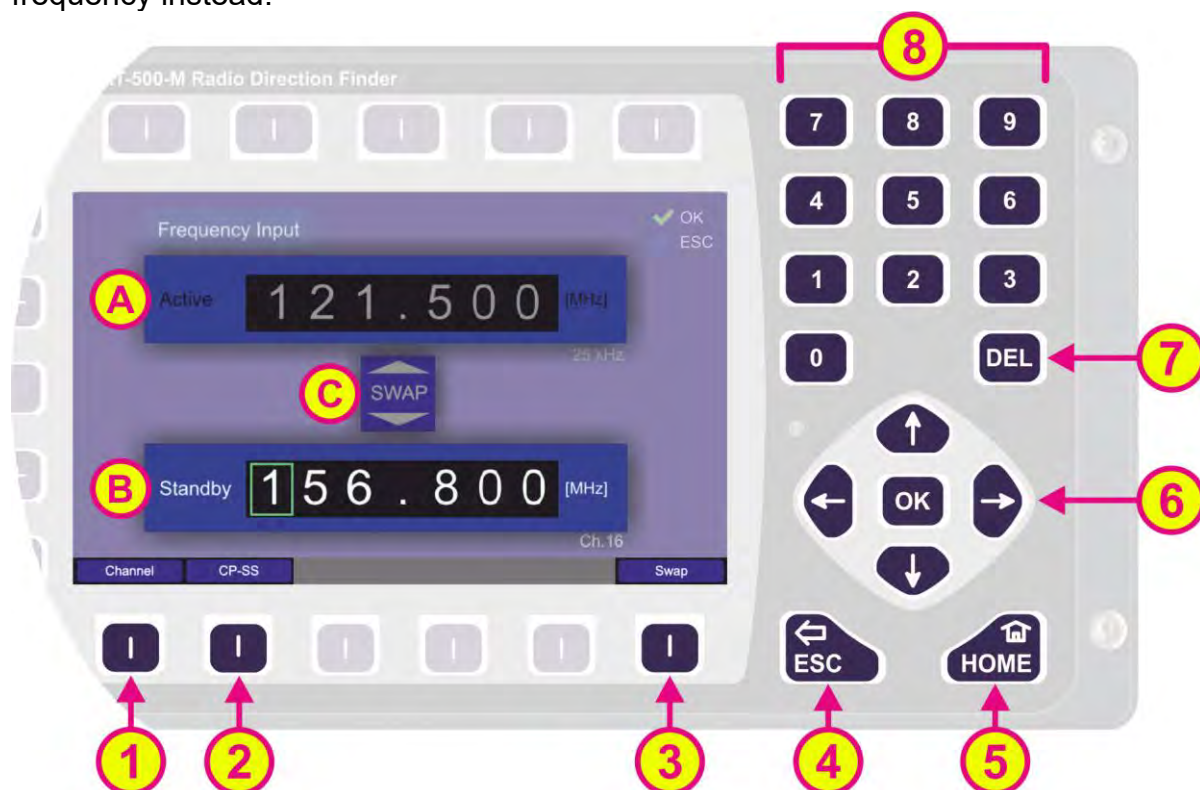

Fig. 8 Input of a new frequency
- Section “Active... [MHz]”, which shows the currently active frequency (s. Fig. 8, field A).
- Section “Standby ... [MHz]”, which allows the input of a new frequency (s. Fig. 8, field B).
- “SWAP” function (s. Fig. 8, field C and position 3) allows switching between the two displayed frequencies.
The input of digits can be done with the numerical buttons on the front of the device (s. Fig. 8, field 8).
The arrow buttons “up” and “down” (s. Fig. 8, field 6) allow the input of the frequency/channel, using a sophisticated input scheme. Depending on the other digit values, that are already set, the system allows the selection of only correct numbers for the current digit.
- The “DEL” button (s. Fig. 8, position 7) deletes the whole input.
- Pressing the “OK” button (s. Fig. 8, field 6) adopts the frequency value as the new “Standby” value. This is not possible until the input is complete and valid from the first to the last digit (s. warnings in Table 7).
- Pressing “Swap” hotkey (s. Fig. 8, position 3 and field C) sets the “standby” frequency to the active bearing frequency and the previously active frequency is set to “standby” (s. Fig. 9).
- Pressing the “CP/SS” hotkey (s. Fig. 8, position 2) opens the dialog variant for selecting “Cospas-Sarsat” frequency groups (description s. 6.1.2.5).
- Pressing the “ESC” button (s. Fig. 8, position 4) closes the dialog without saving changes.
- Pressing “HOME” button (s. Fig. 8, position 5) closes the dialog without saving changes and leads to the bearing page.
Generally, channel input works the same way as frequency input: the input dialog is divided into a section for the active channel and a section for the new channel (s. Fig. 8, fields A and B).
The hotkey “CP-SS” (s. Fig. 8, position 2) opens a drop-down menu with selectable Cospas-Sarsat frequency groups. The currently active frequency group is highlighted in green, whereas the other groups are gray. By pressing the “up” and “down” arrows (s. Fig. 14, position 3), the green frame moves and marks next frequency group, which can be selected by pressing “OK”. Pressing “ESC” will close the dialog without adopting the new frequency.